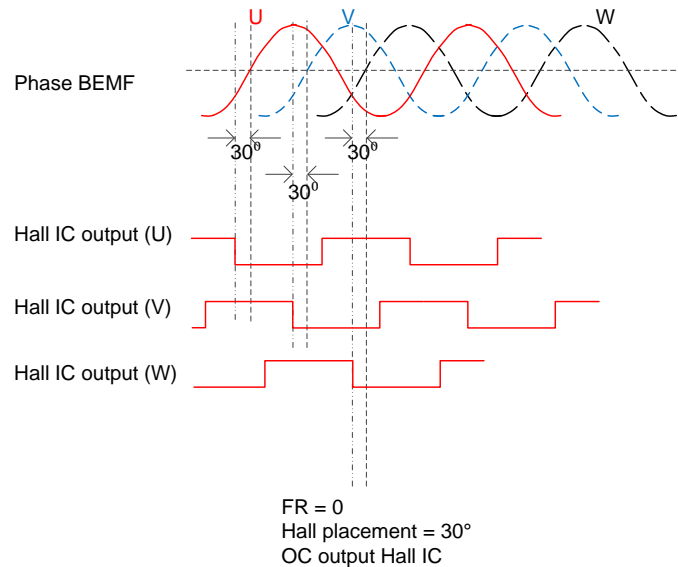

Figure 29. Correspondence Between Motor BEMF and Hall Signal (FR = 0, 30° Placement, Hall IC)
4. Phase U is leading phase V by 120°, phase V is leading phase W by 120°. The Hall signal positive output is 30° leading of respective phase BEMF. Choose FR = 0 and 30° placement option (see Table 2 and Figure 29).